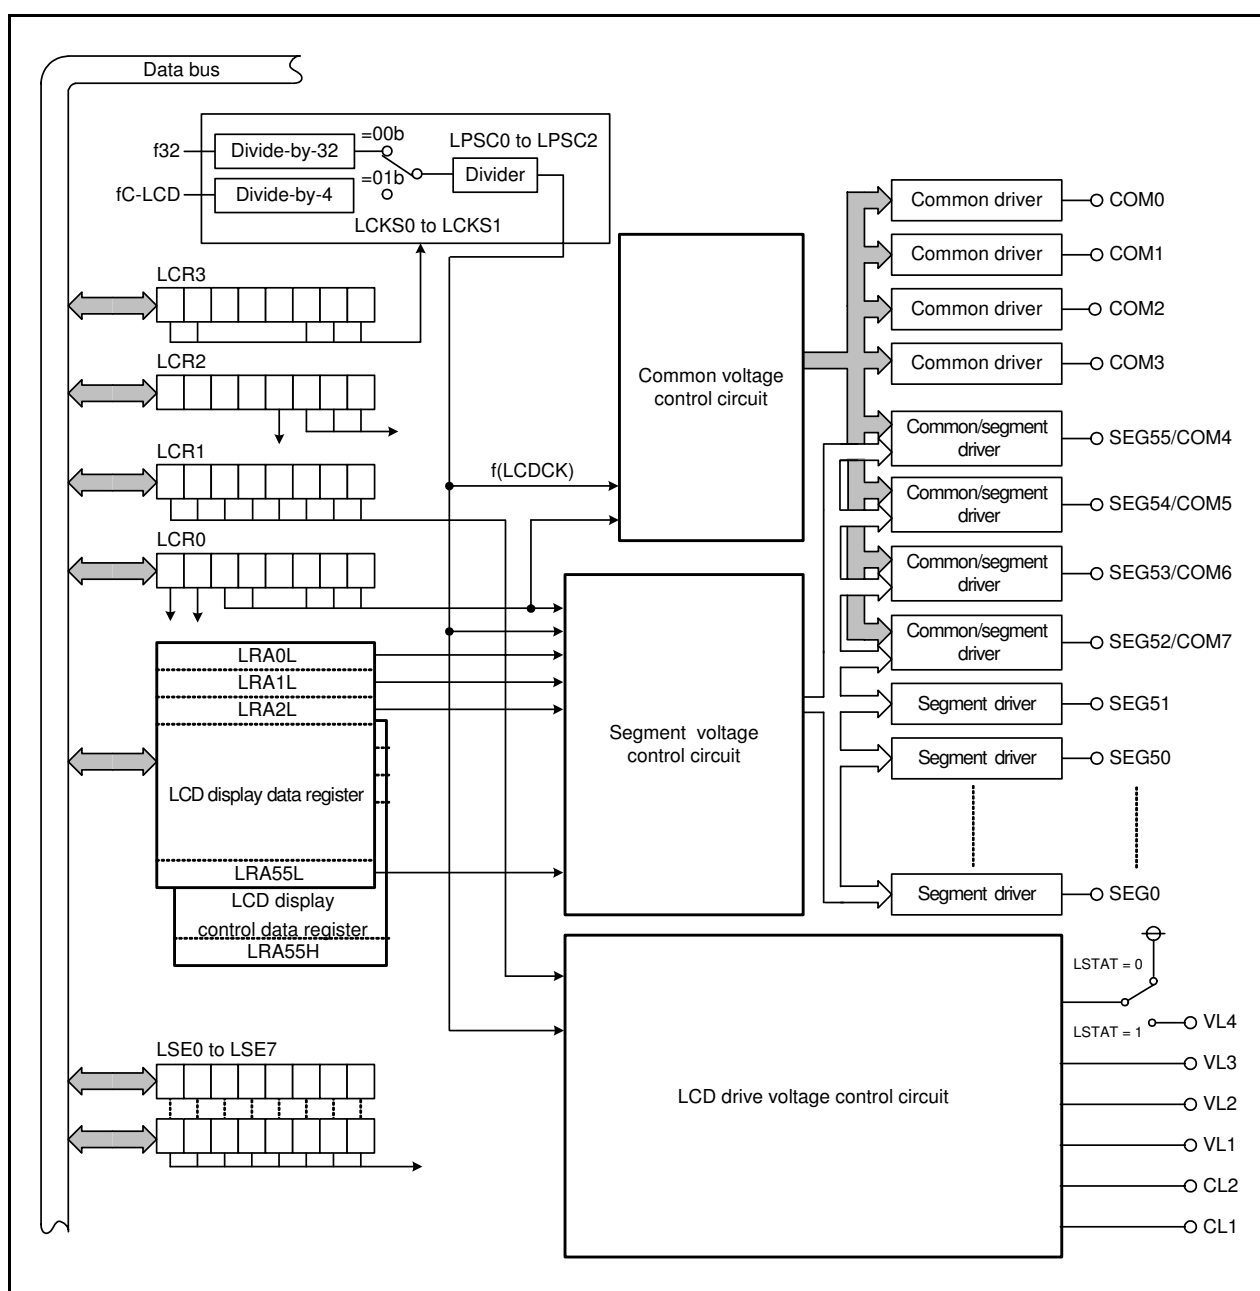

Figure 32.1 Block Diagram of LCD Drive Control Circuit
Table 32.2 lists the Specification Overview of LCD Drive Control Circuit (1) and Table 32.3 lists the Specification Overview of LCD Drive Control Circuit (2). Figure 32.1 shows a Block Diagram of LCD Drive Control Circuit.